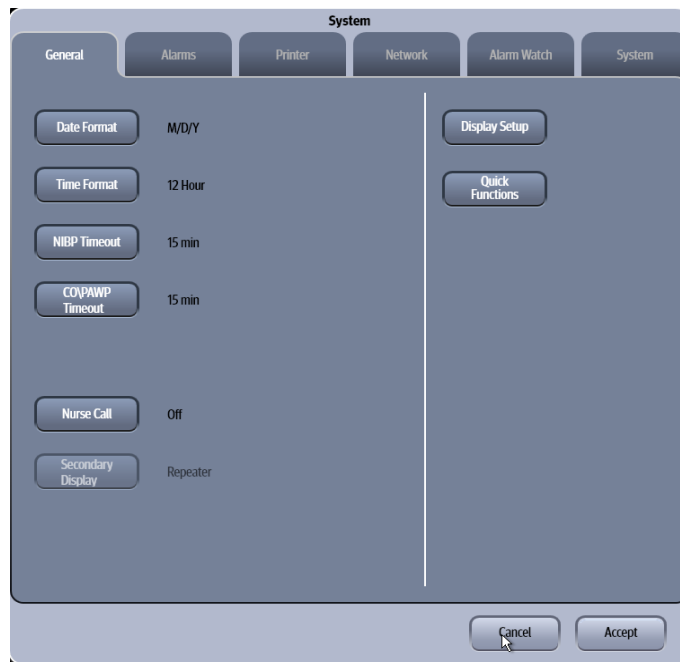

FIGURE 25-1 Example System Dialog (General Tab)
The **System** dialog, located in the Setup tab, (as shown in FIGURE 25-1) contains the following tabs:
The System dialog displays (as shown in FIGURE 25-1).
3. Select the **General** tab (as shown in FIGURE 25-1).